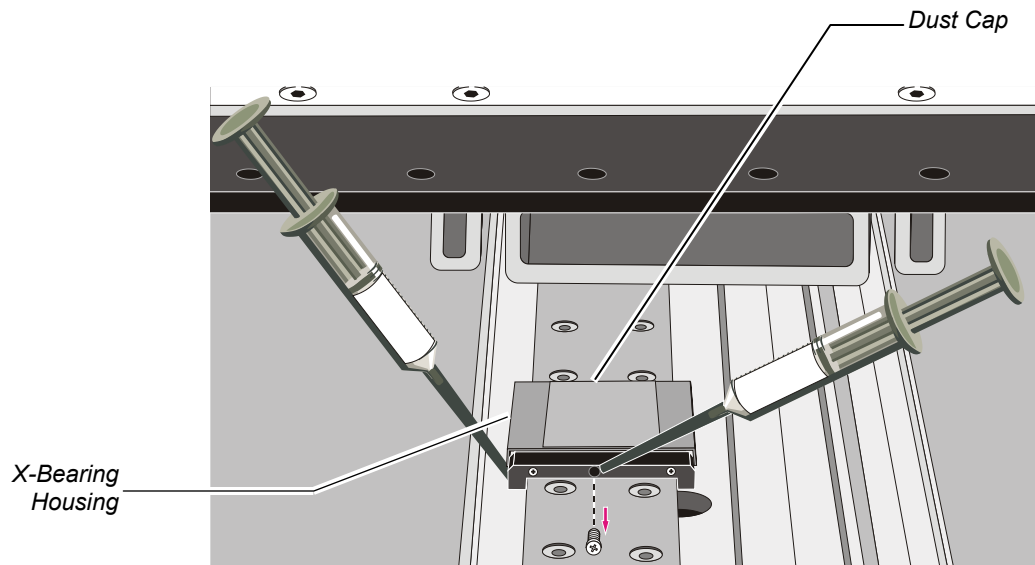

Figure 4-6 Lubricating the X-, Y-, and Z-Axis Linear Guides
5. Turn **OFF (0)** the main power circuit breaker.
6. Locate the X-axis bearing housing (Figure 4-6).